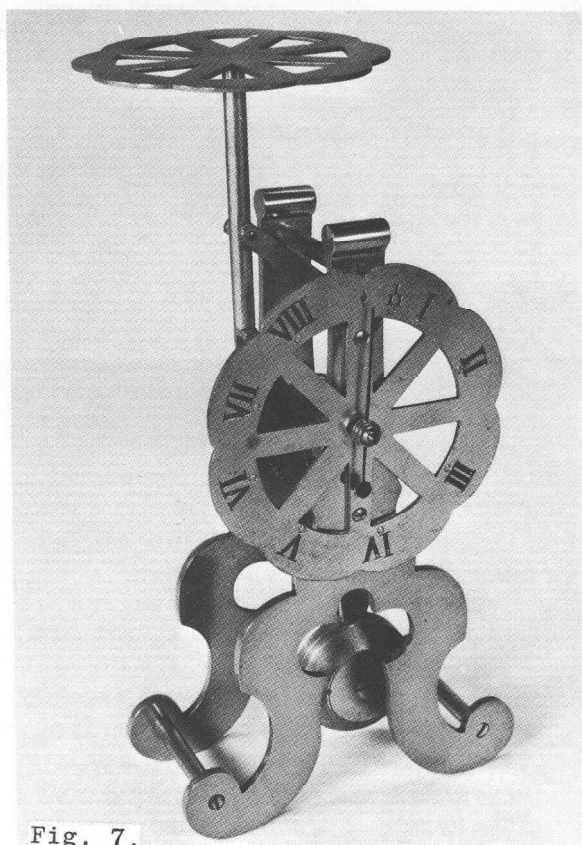
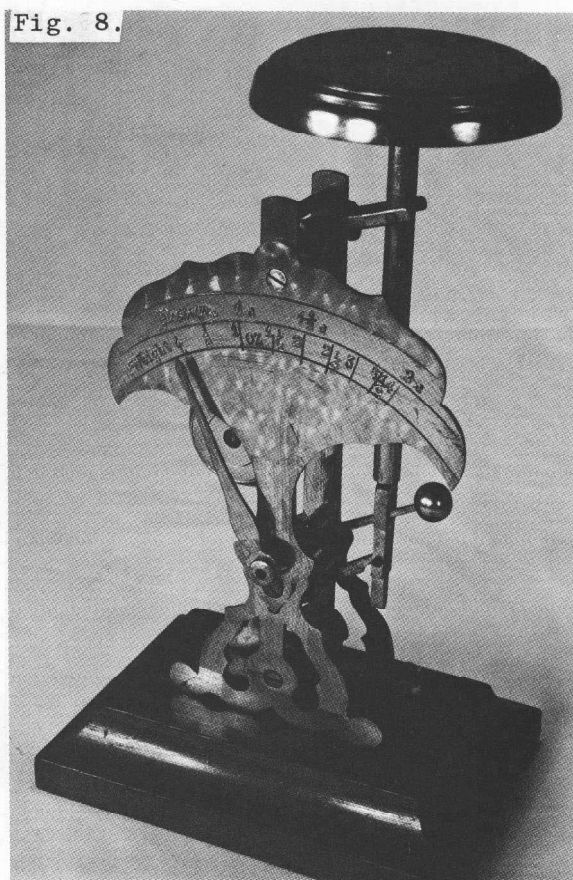

Fig. 7.
Fig. 8.
Several sources, including Hale in 1839 in 'Good Housekeeper' (5) and Ellet in the book mentioned in the previous paragraph, publish a Table of Weights and Measures (Fig. 8.) for those people who did not have scales and measures. It is interesting to note that in three sources I encountered almost exactly the same table, printed in the same style and order. It is hard to say whether Hale
Fig. 8. An early conversion table. Such tables are still found in American recipe books sold in Britain, as American recipes are in volumetric units while British cooks work in units of weight—either avoirdupois or metric, depending on their age, and what weights they have on their scales.
Marion and Co. (see EQM p. 484) may have made the pendulums on a stand that are found with at least six variations in design, ranging in height from six to fourteen inches tall (15 to 34 cm.) with various graduated faces, various pendulous weights, and usually with a mixture of brass, gilding and nickel on any one scale (Fig. 7 8 and 12). A common feature on their scales was the little brass ball on a rod sticking out at an angle behind the graduation plate, which
Figs. 7 & 8. The skeleton clock design has no maker's mark, but was obviously made by the same maker as Fig. 8, which has a tiny cartouche on the back stamped Marion, London. Auguste Marion had shops in London and Paris between 1844 and 1920, as wholesale and retail stationers and photographic suppliers. He did not take out the patent for these pillar mounted scales- that was taken out by W Hiscock in 1879- but his mark is the most often found on these rare scales. The postage rates were current from 1871-1897. The clock is 8 ins. tall (20 cms.) and Fig. 8 is 7 ins. tall (18 cms.)
transferred the downwards movement of the plate to the rotational movement of the pointer (Fig. 8) All the variations by M and Co. are highly collectable, being difficult to find and all being superbly crafted and delightful to look at. Sometimes a retailer's name was stamped on the back of the scale but M and Co's work is so distinctive that there is never any doubt as to the maker.
Fig. 12. W Hiscock anticipated the new Parcel Post with its much heavier loads, by patenting the spring buffer to check the motion of the weight on its return swing. The smaller scales made to his design did not need a spring buffer (see Figs. 7 & 8) The longer pointer points to the weight of the parcel and the shorter pointer points to the price in pennies. Above the longer pointer one can just make out an L shaped piece of metal tipped up to the right, which can be flipped to the left to lock the pillar on which the parcel is placed. The scale is signed M & Co., assumed to be Marion and Co. A spirit-level is set into the wood in front of the scale. Nickelled brass with a gilded face and parcel plate. 13 ins. high (32 cms.)